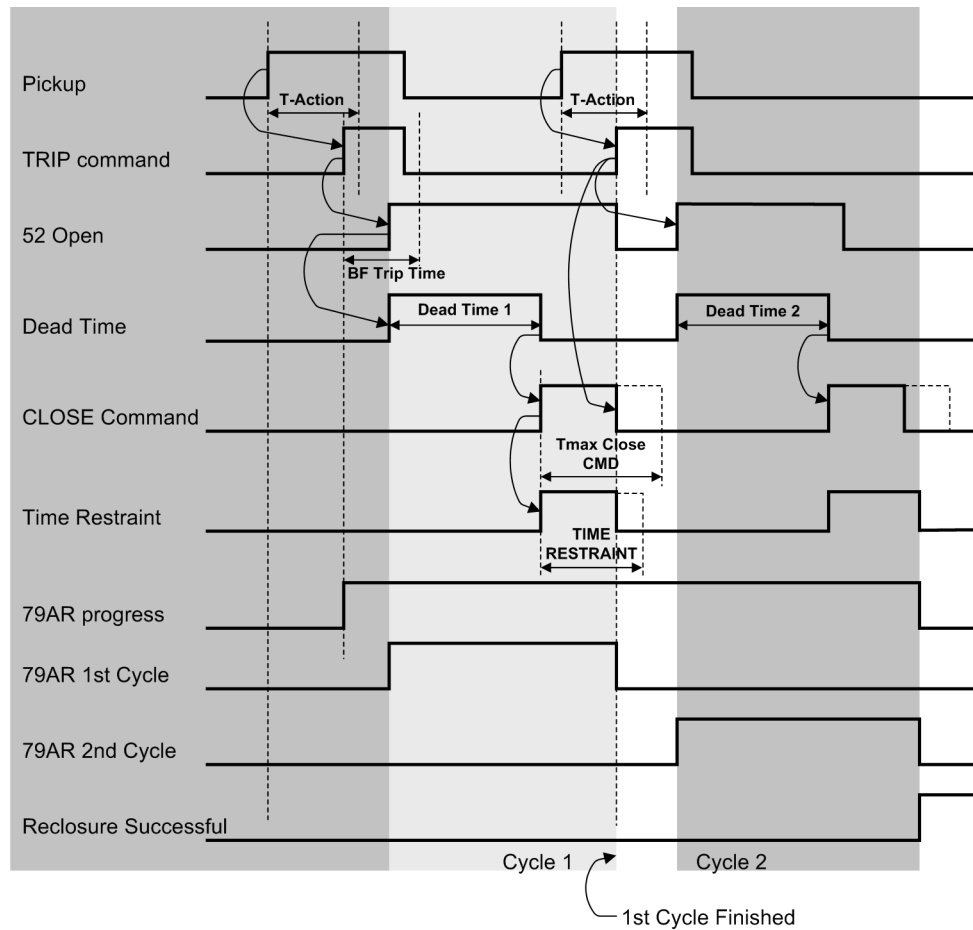

Figure 2-95 Timing diagram showing two reclosing shots, first cycle unsuccessful, second cycle successful
The 7SJ62/64 is equipped with an integrated three-pole, single-shot and multi-shot automatic reclosure (AR). Figure 2-95 shows an example of a timing diagram for a successful second reclosure.